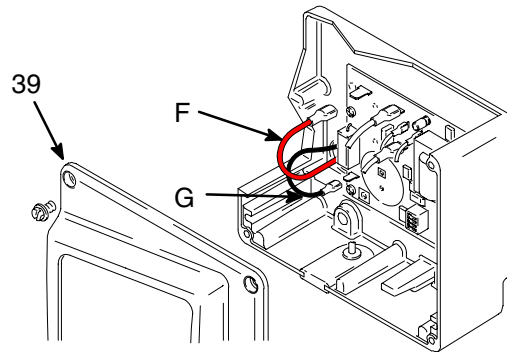

Fig. 3
3. Fig. 3. Remove pressure control cover (39). Disconnect motor leads (F) and (G).